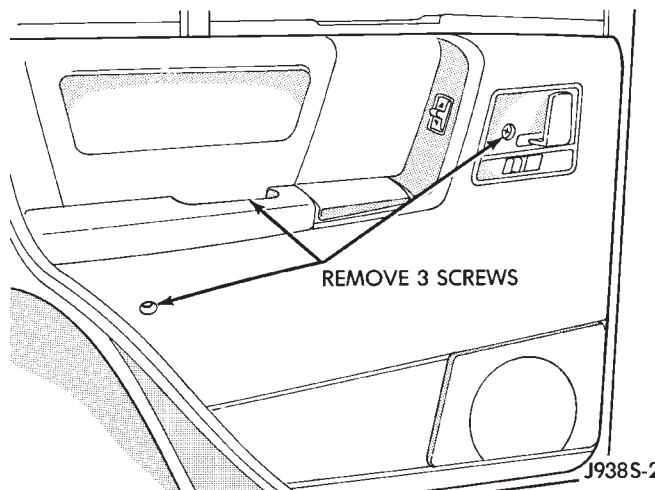

Fig. 6 Trim Panel Attachment
- (1) Remove screw and door handle cover (Fig. 6).
- (2) Remove screw from under armrest.
- (3) Remove screw from bottom of hand hold in armrest.